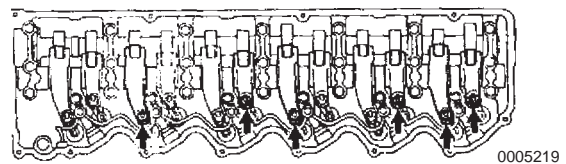

Figure 5-220
6. Check only the valves indicated by arrow in **Figure 5-220**.